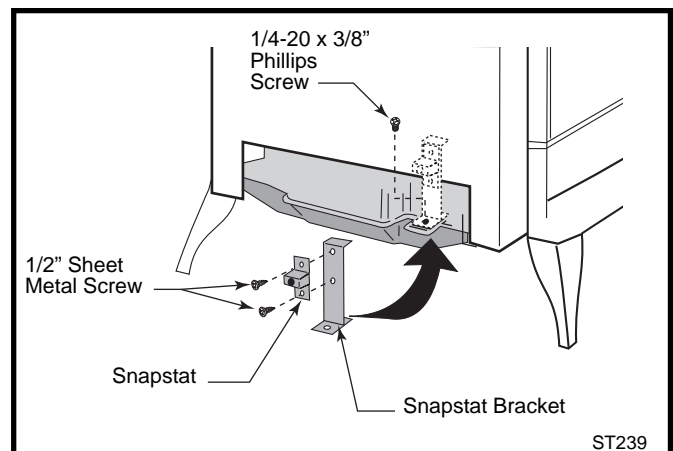
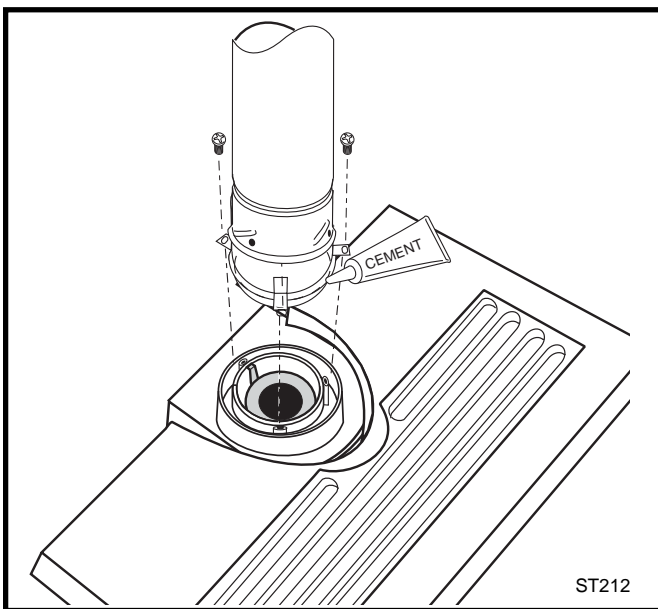

Fig. 13 Snapstat assembly and installation.
Fig. 18 Attach inner assembly to flue collar.
2. Attach the snapstat assembly to the snapstat bracket with two sheet metal screws. (Fig. 18) Remove the 1/4-20 x 3/8" hex head bolt installed in the hole in the right rear ledge of the firebox. Use that bolt to secure the snapstat bracket to the firebox. The mounting hole is slotted to let you adjust the bracket so that the snapstat bracket head makes contact with the firebox. (Fig. 13)
- Run a bead of sealant around the bottom end of the starter pipe and attach the assembly to the stove using three 1/4-20 x 3/8" Phillips screws provided in the parts bag. (Fig. 18)